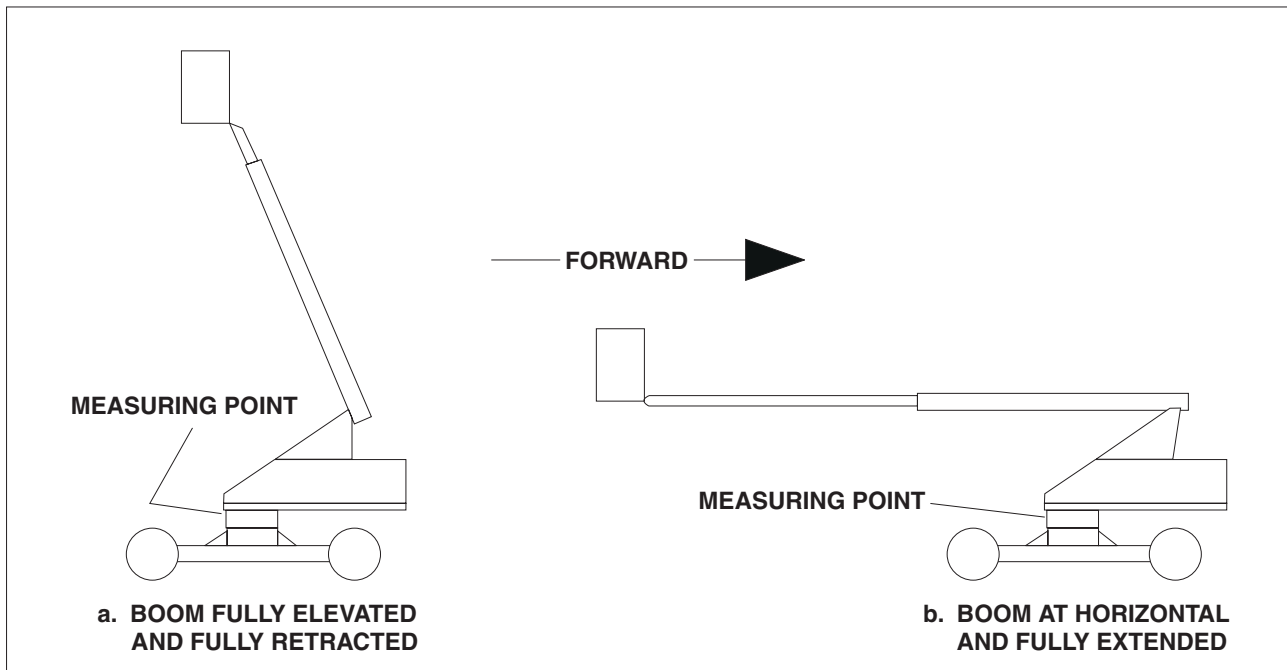

Figure 3-4. Swing Bearing Tolerance Boom Placement
1. From the underside of the machine, at rear center, with the boom fully elevated and fully retracted (Figure 3-4., Swing Bearing Tolerance Boom Placement), measure and record the distance between the swing bearing and the frame using a magnetic base dial indicator. (Figure 3-4., Swing Bearing Tolerance Boom Placement)
2. At the same point, with the boom at horizontal and extended until red marking band on mid section is exposed, measure and record the distance between the swing bearing and frame using a magnetic base dial indicator. (Figure 3-4., Swing Bearing Tolerance Boom Placement)